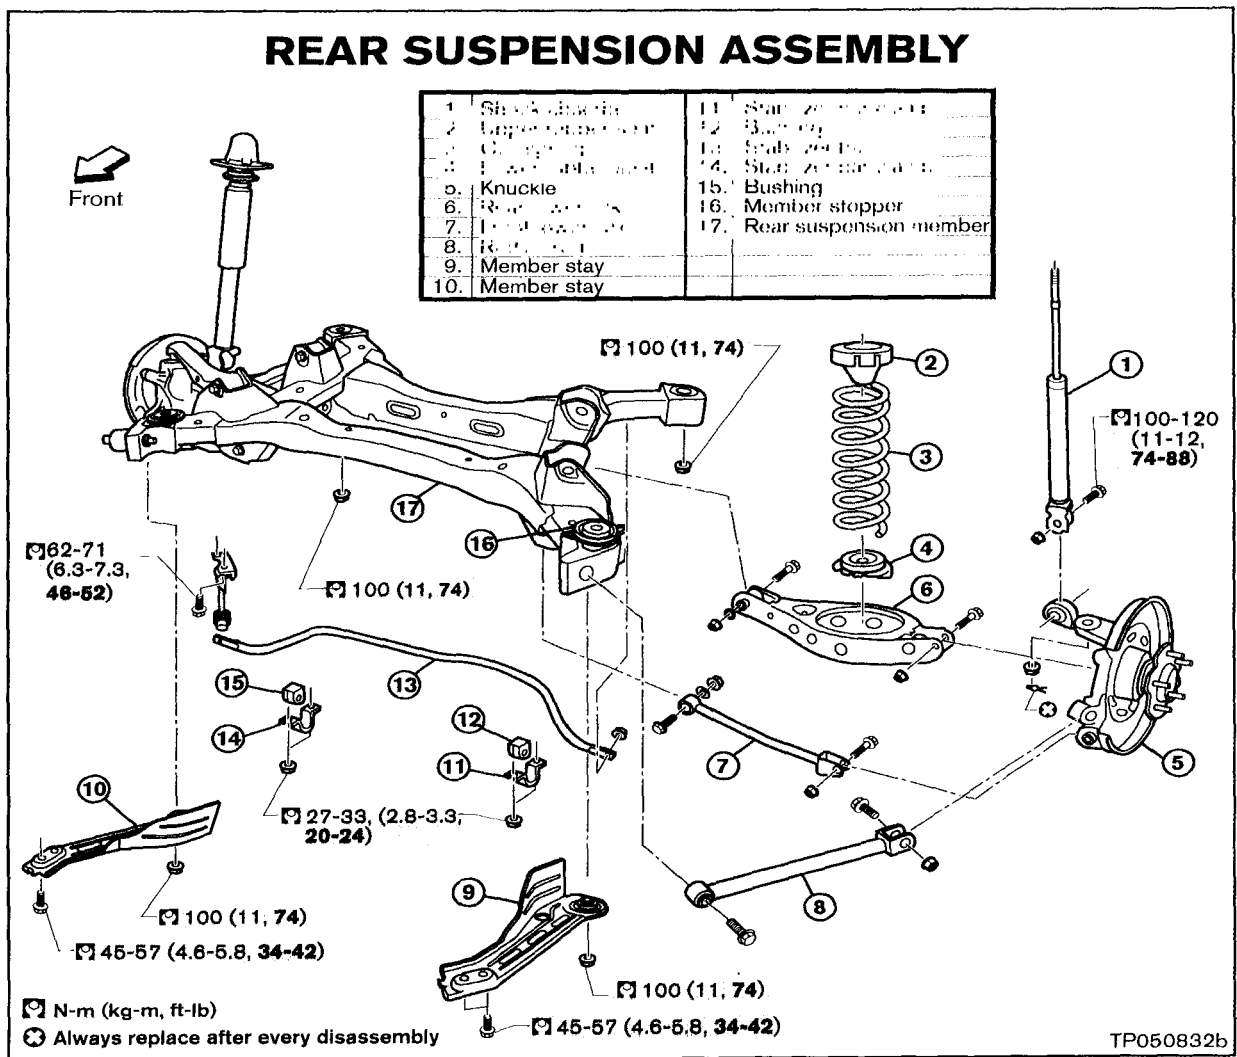

Figure C1
- Re-torque all fasteners to specification (see Figure C1).